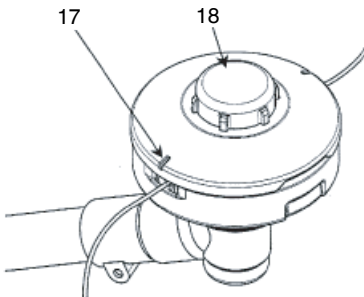

Fig. 14
- Check the case and button for wear. If the wear limit mark (17) on the case is no longer visible or there is a hole in the bottom (18) of the button, change the new parts immediately. (Fig. 14)